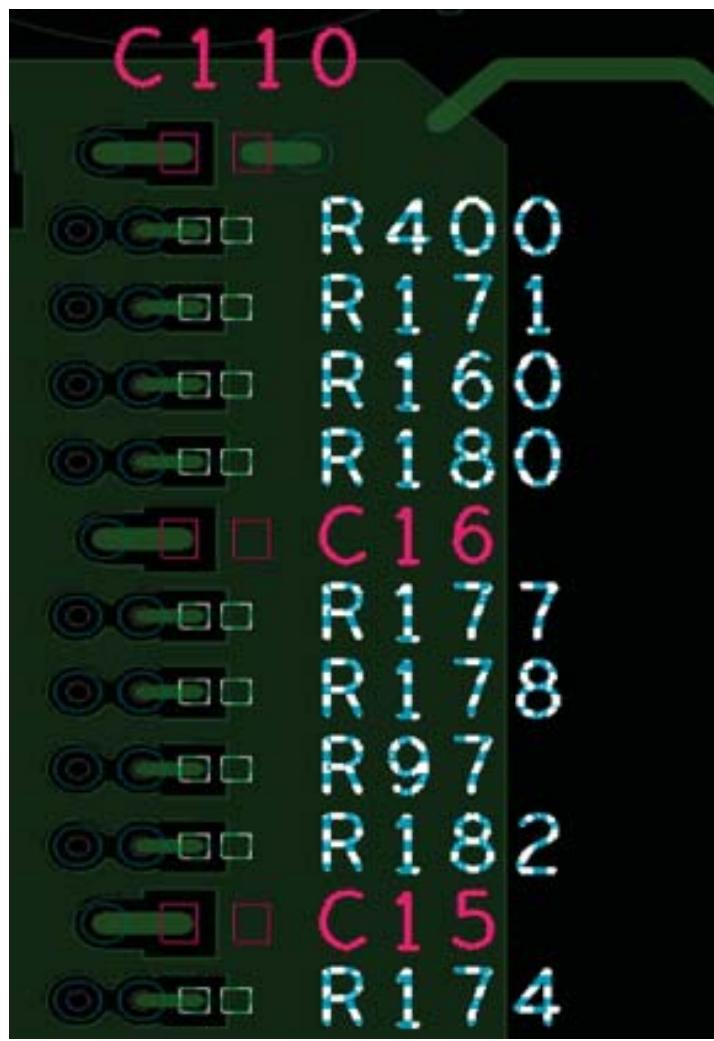

Figure A-6: Example of V_{TT} Termination Placement
12. For ADDR/CMD/CTRL V_{TT} termination, every four termination resistors should be accompanied by one 1.0 μ F capacitor, physically interleaving among resistors, as shown in Figure A-6.